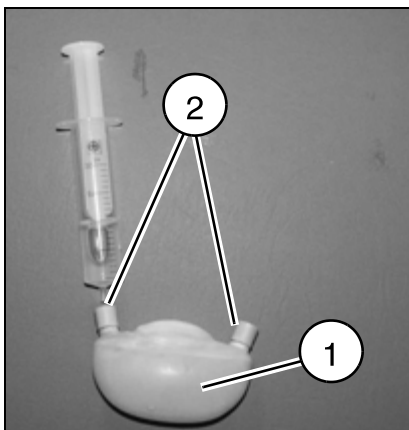

Fig. 82: Water bubble
- Fill the water bladder with water (approx. 100-120 ml, i.e. 5-6 syringes, each 20 ml) (1/Fig. 82 / p. 78):
- Insert the syringe needle through one of the valves (2/Fig. 82 / p. 78) and inject the contents of the syringe into the water bladder. The valve has a self-closing membrane.